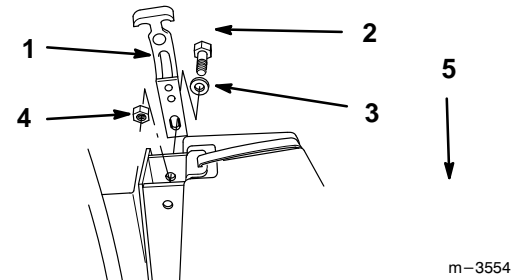

Figure 12
4. Secure hopper latch to the frame with 1/2”–13 x 1” (25 mm) bolts and 1/2”–13 locknut (Fig. 12).